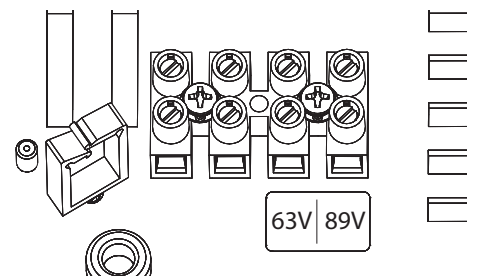

Fig. 2-22, Voltage Wire Position
- Loosen the terminal screw and move the Output Voltage Wire to the desired output voltage position on the Output Voltage Terminal (see **Fig. 2-22**).